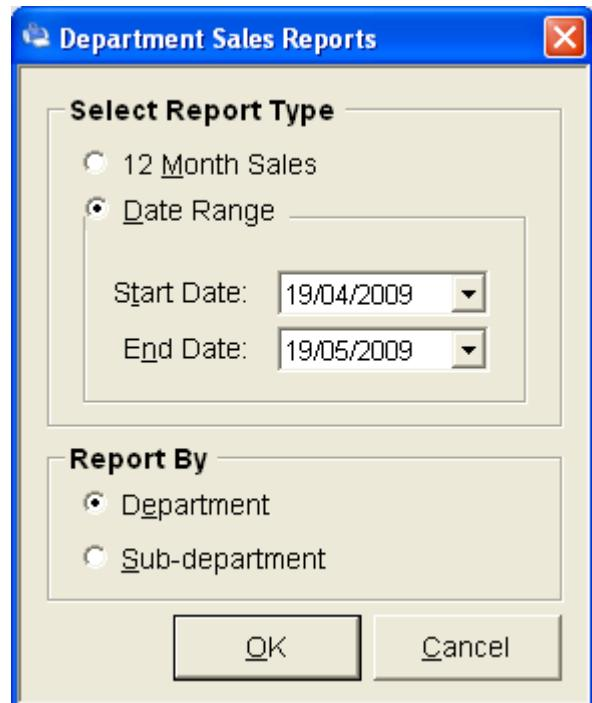

Figure 347
2. A screen will be displayed (as shown in Figure 347).